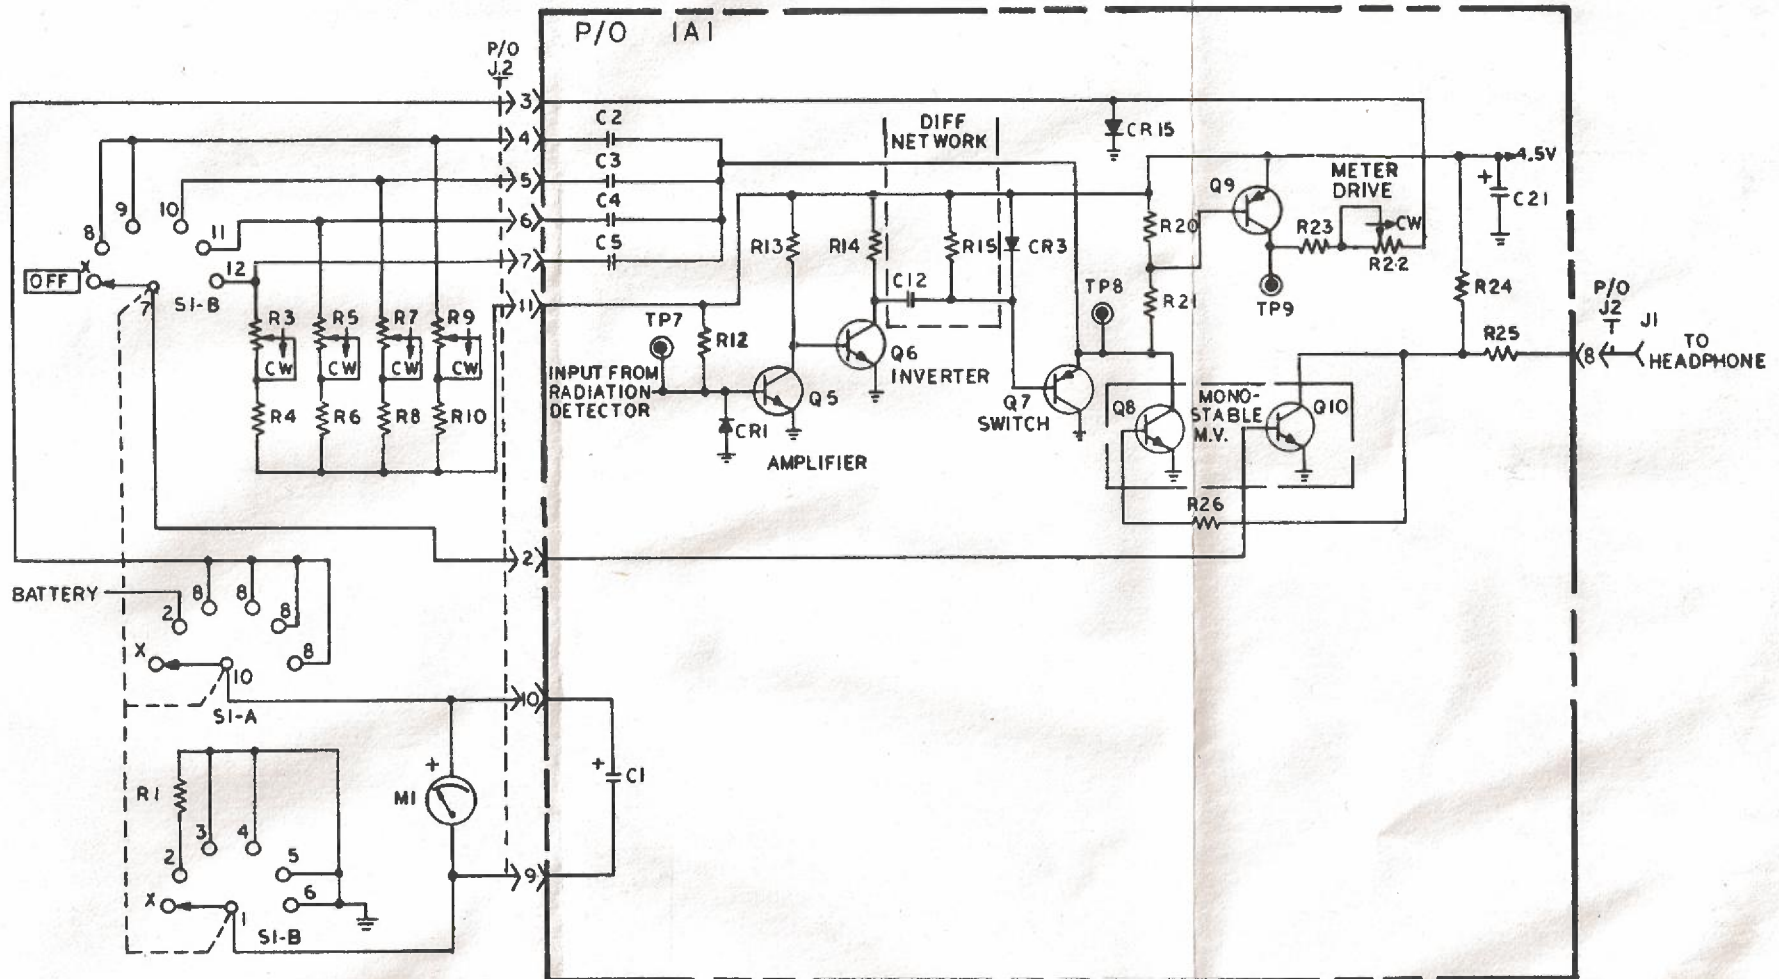

Figure 3-4. Computer Circuit
c. Computer Circuit (Refer to Figure 3-4).